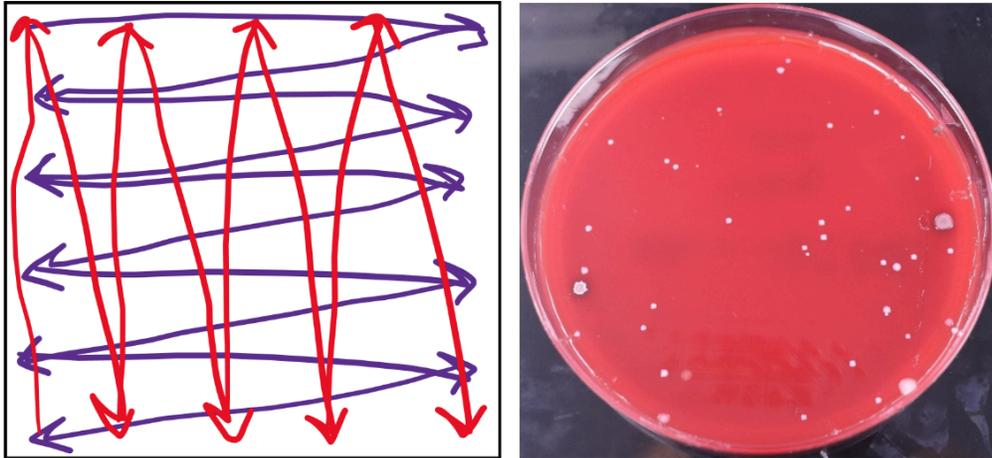

Figure 4.2. Swabbing technique. Left: Pattern of swabbing an object. Right: Swab plate results.
Bacteria in an environment can be cultured by removing them from the environment with a sterile swab. The swab is squiggled across a petri plate, then bacteria are isolated in pure culture using a streak plate. Figure 4.2 shows the pattern of swabbing an object: Swab is passed horizontally first (blue line), then vertically (red line) across the area being swabbed. Next, the swab is then squiggled across the entire width of the plate starting at the top and proceeding to the bottom.
After incubation, bacteria have grown all over the petri plate surface (Figure 4.2 right). Isolated colonies can
4. Swab a defined area of 50 cm²: 10 cm wide by 5 cm long. Swab in one direction then in the direction perpendicular to the first direction. (Figure 4.2, left image)
8. **After 24 hours,** make a streak plate in the BSC using tryptic soy agar (TSA) or nutrient agar (NA) to isolate one bacterial colony from your swab culture.